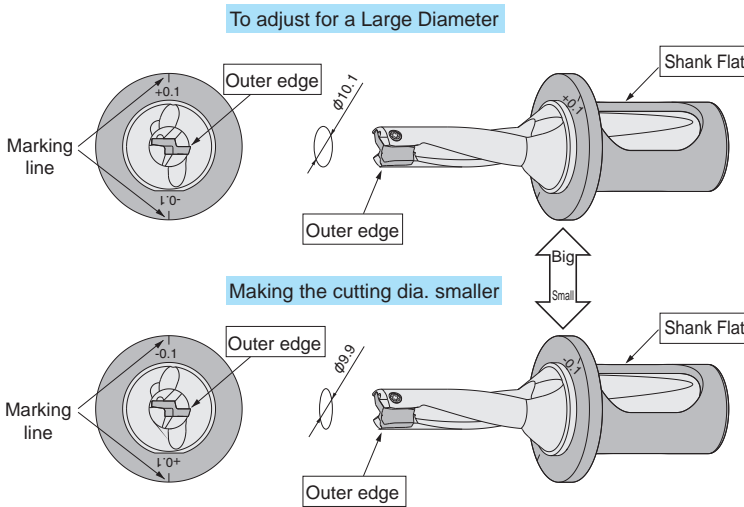

Fig.1 Diameter Adjustment Method (e.g.) ø10 Drill
- ① Set the outer edge horizontally with 90° to making line on the sleeve. (Fig.1)
- ② To adjust to larger diameter, align the +0.1 mark on the sleeve with the flat on the drill shank.